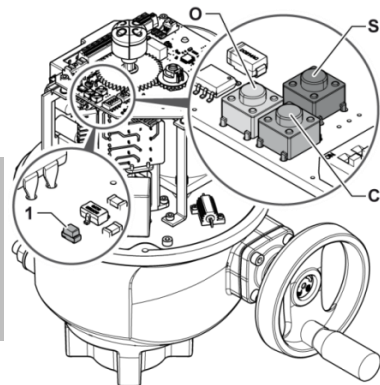

Figure 4 Local commands
2. Press the **S** local setup command (see **Figure 4**) for 5 seconds to enter the stroke calibration mode.